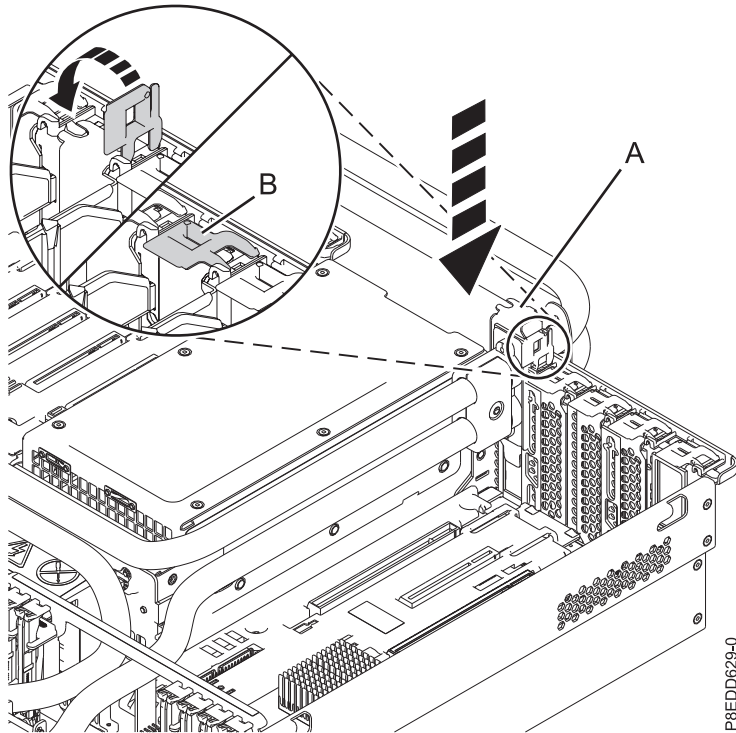

Figure 200. Reinstalling the water hose tailstock bracket
- a. Push the tailstock bracket **(A)** into position in the rear bulkhead. Close the tailstock latch **(B)** in the directions shown. See Figure 200 on page 199.